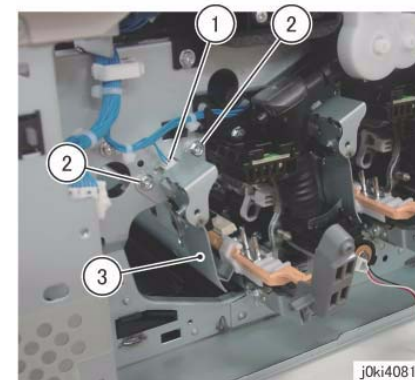

Figure 11 Remove the Erase Lamp Unit (K)
16. Remove the Erase Lamp Unit (K). (Figure 11)
- c. Remove the Erase Lamp Unit (K).